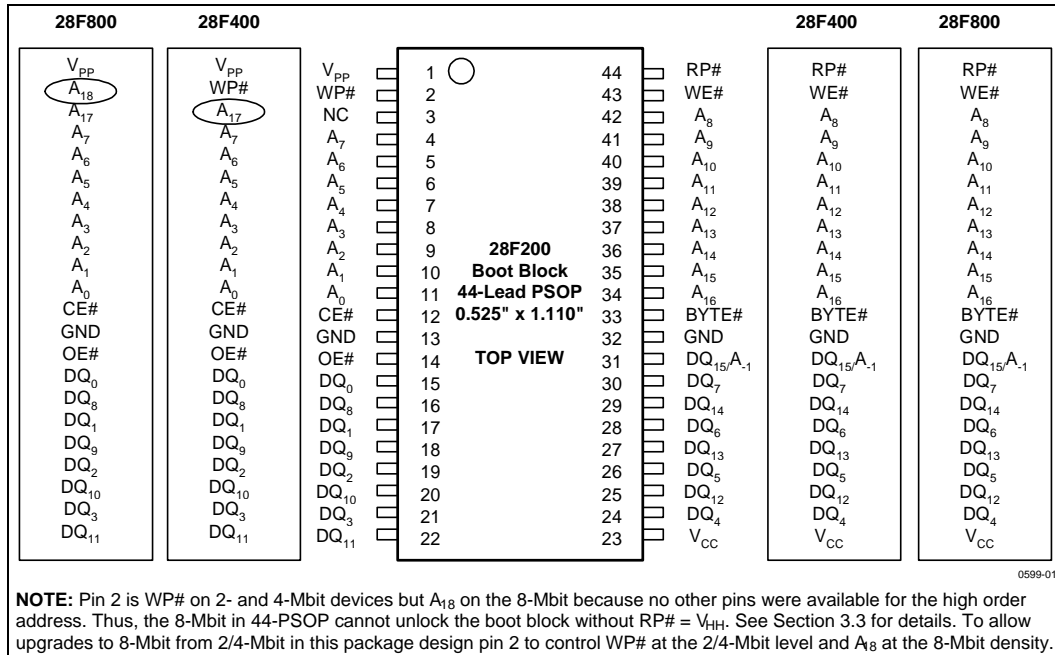
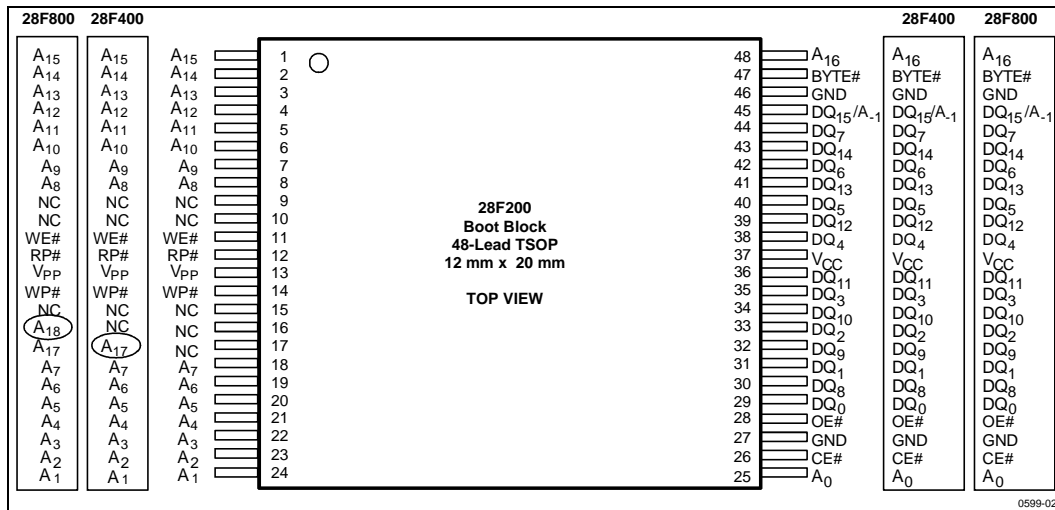

Figure 1. 44-Lead PSOP Pinout Diagram
Figure 2. 48-Lead TSOP Pinout Diagram
-002	Minor changes throughout document. Section 3.1.5 and Figure 14 redone to clarify program/erase operation abort. Information added to Table 2, Figure 1, and Section 3.3 to clarify WP# on 8-Mbit, 44-PSOP. Read and Write Waveforms changed to numbered format. Typical numbers removed from DC Characteristics and Erase/Program Timings.
-003	Minor text changes throughout document. Figure 1, 44-PSOP pinout: mistake on pin 3 on 2-Mbit pinout corrected from A 17 to NC. Specs t EHQZ and t GHQZ improved. Explanations of program/erase abort commands reworked in Table 6, Command Codes.
These 5 Volt Boot Block Flash memory products are available in the 44-lead PSOP (Plastic Small Outline Package), which is ROM/EPROM-compatible, and the 48-lead TSOP (Thin Small Outline Package, 1.2 mm thick) as shown in Figure 1, and 2, respectively.
Intel® 5 Volt Boot Block Flash architecture provides upgrade paths in each package pinout up to the 8-Mbit density. The 44-lead PSOP pinout follows the industry-standard ROM/EPROM pinout, as shown in Figure 1. Designs with space concerns should consider the 48-lead pinout shown in Figure 2. Applications using an 8-bit bus can use the 40-lead TSOP, which is available for the 4-Mbit device only.